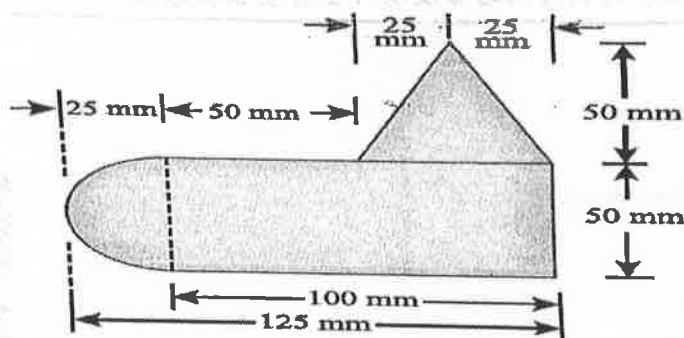

Figure 8
- b) A uniform lamina shown in Figure 8. Consists of a rectangle, a circle and triangle. Determine the Centre of gravity of the lamina. All dimensions are in mm (10)